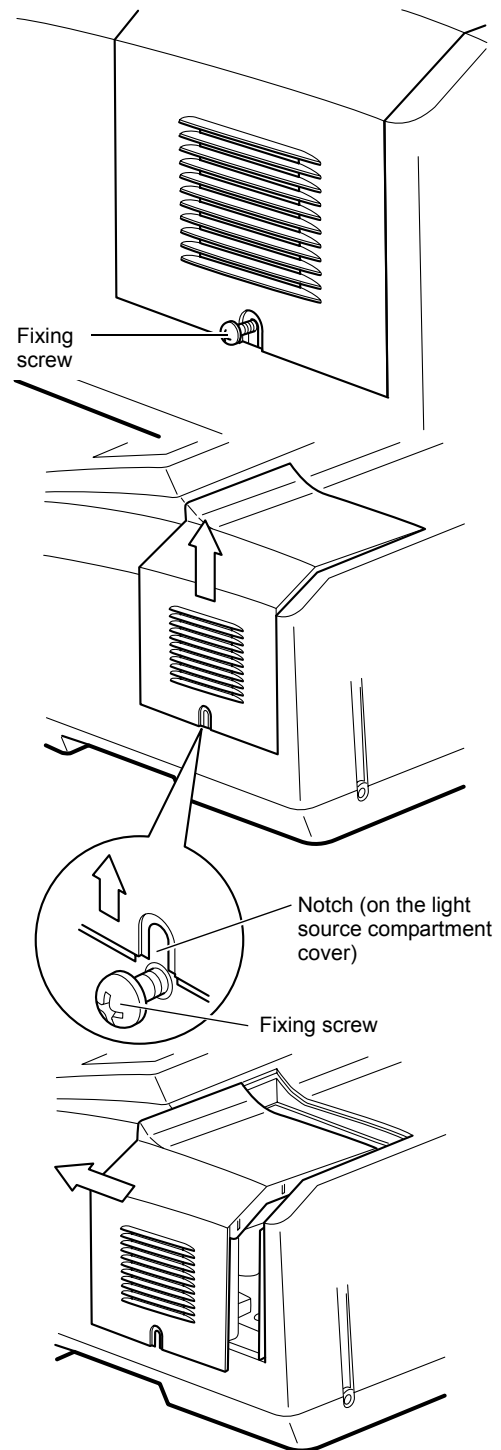

Fig. 3.9 Removing the light source compartment cover
- 3 While sliding the light source compartment cover and lifting it up at an angled (following the arrow direction in Fig. 3.9), remove it from the main body.